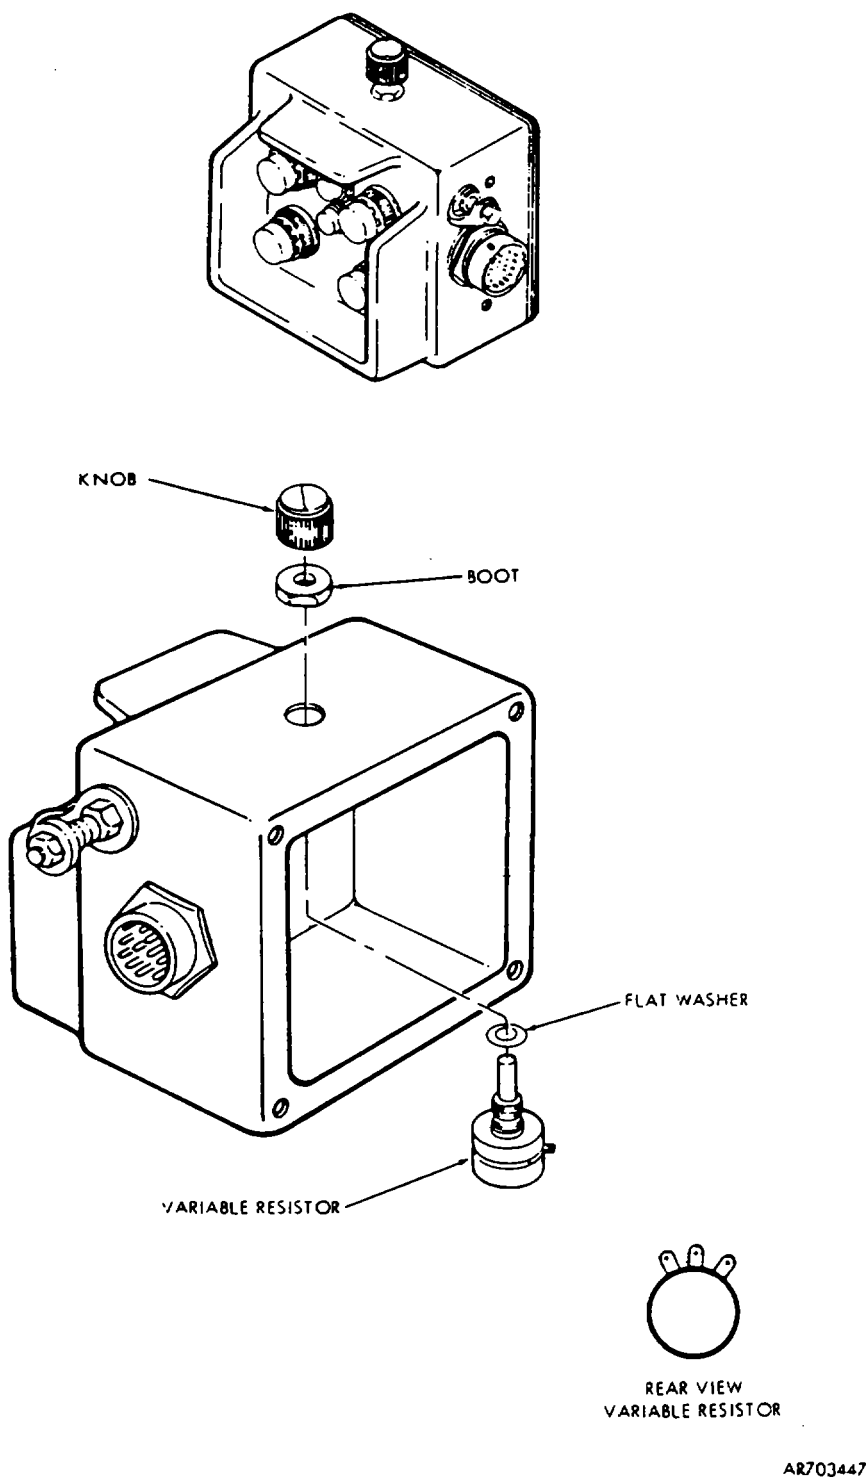
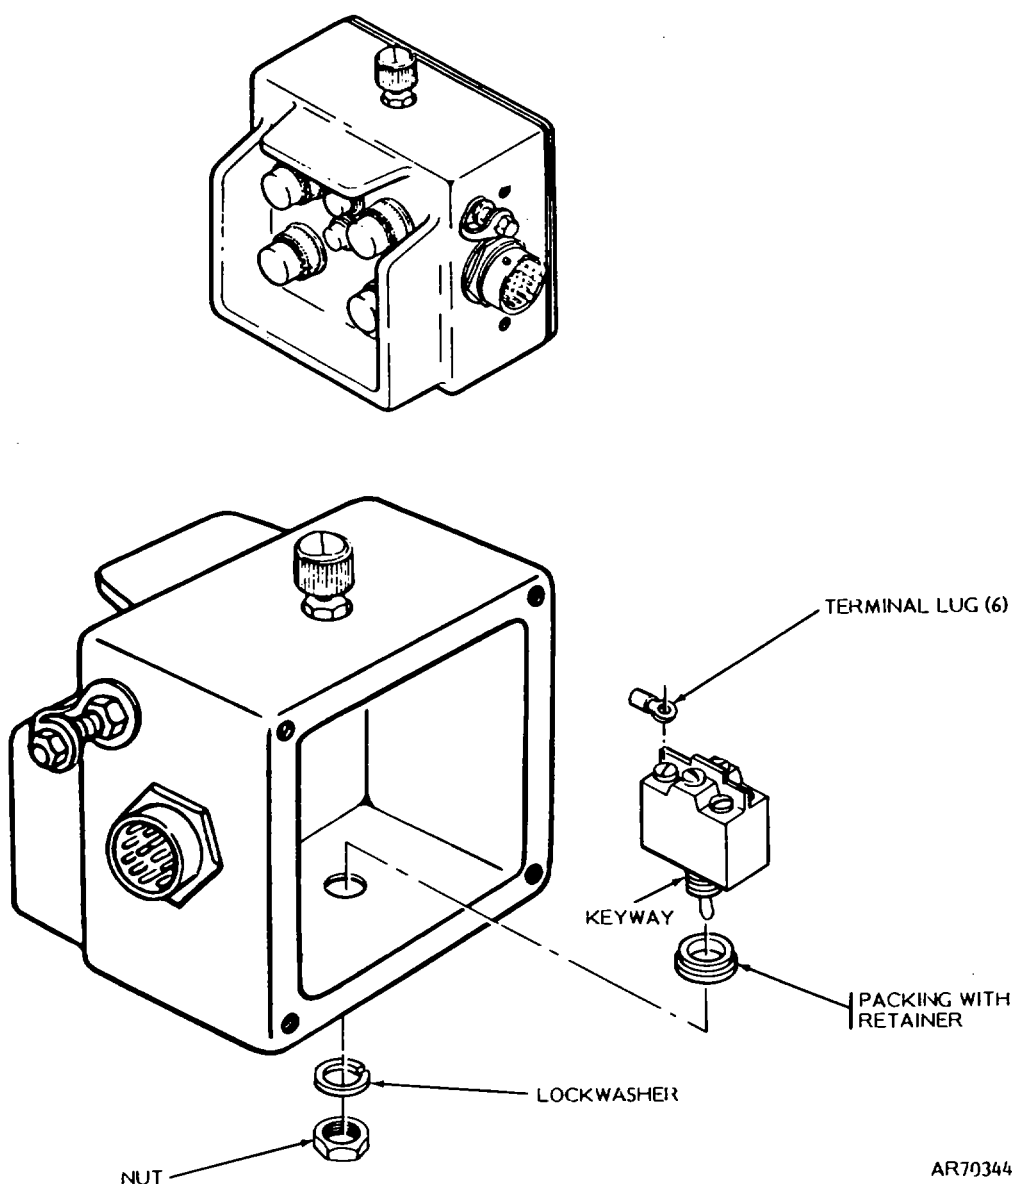

Figure 3-18. BRIGHT/DIM control (RI) removal and installation.
Figure 3-19. MOVING/STATIONARY switch removal and installation.
*a. Removal (Fig 3-18).*
- (1) Remove four bolts, lockwashers, and flat washers, and remove rear cover and gasket.
- (2) Tag and disconnect wires from terminals.
- (3) Loosen two setscrews and remove knob.
- (4) Remove boot (seal nut) securing variable resistor to wall. Remove variable resistor with flat washer from housing.
*b. Installation (Fig 3-18).*
- (1) Remove and discard nut supplied with replacement variable resistor.
- (2) Solder bare jumper wire between terminals 1 and 2.
- (3) Slip flat washer over resistor shaft. Insert variable resistor into mounting hole; be sure locating tab on resistor enters positioning hole in housing wall.
- (4) Secure variable resistor with boot (seal nut). Tighten boot to 10-13 lb-in. (1.11-1.5 N•m).
- (5) Install knob on shaft and tighten setscrews.
- (6) Solder wires with lead alloy solder (item 12, App. B) to terminals according to tags. Remove tags from wires.
- (8) Lubricate cover gasket with grease (item 8, App. B).
- (9) Attach rear cover and gasket with four bolts, lockwashers, and flat washers. Tighten bolts to 23-32 lb-in. (2.6-3.6 N-m).
- (10) Purge and pressurize unit (para 2-3). Be sure there are no leaks around replaced component.
*a. Removal (Fig 3-19).*
- (2) Remove nut and lockwasher securing switch to wall.
(3) Remove switch with packing and retainer from housing to the limit of attached wires. Exercise care not to put excessive strain on wires.
(4) Tag and disconnect wires from switch.
(1) Inspect terminal lugs attached to wires to be sure they are securely attached. Replace lugs as necessary.
(2) Inspect for broken wires. If wires are broken, replace with new wire (item 18, App. B). Use old wire for pattern.
*c. Installation (Fig. 3-19).*
(1) Remove installation hardware supplied with replacement switch. Discard one nut and locking ring (tabbed washer).
(2) Attach wires to switch terminals according to tags. Remove tags from wires.
(3) Lubricate packing with retainer with grease (item 8, App. B).
(4) Install lubricated packing with retainer onto threaded shank of switch
(5) Insert switch with lubricated packing into mounting hole.
(6) Position switch so that keyway in threaded shank is toward front panel and secure with nut and lockwasher supplied with switch. Tighten nut to 10-13 lb-in. (1.1-1.5 N-m).
(7) Test to verify repair (para 2-4).
(8) Lubricate cover gasket with grease (item 8, App. B).